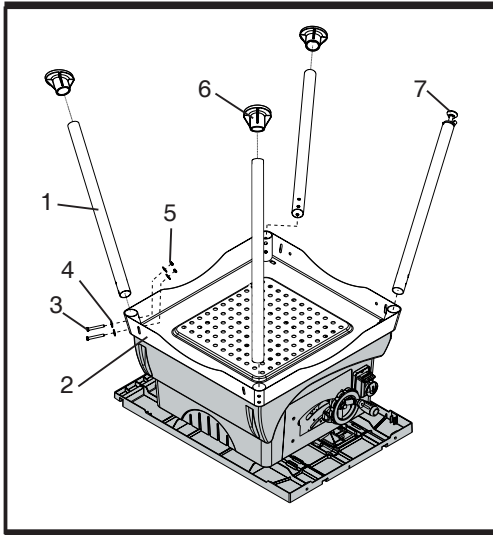

Fig 2
- 2) Insert foot pad (6) into bottom of leg. Repeat for the other two legs as shown.
- 3) Carefully set the saw in its upright position on a clean level surface and adjust the adjustable foot pad (7), so all legs are contacting the floor and are at similar angles to the floor, and tighten all bolts (See fig. 2).